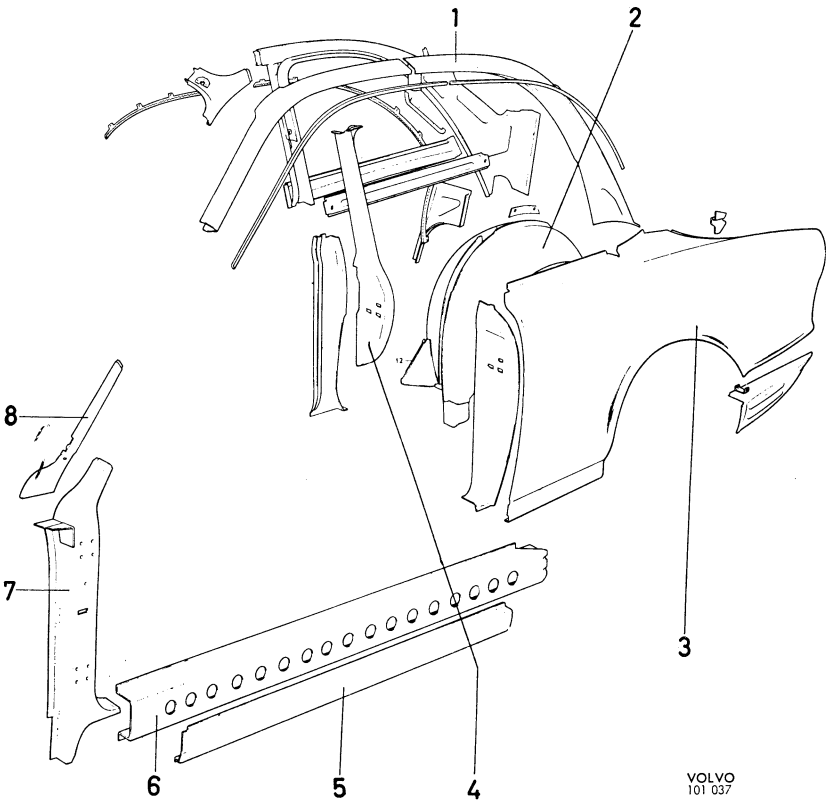

Fig. 6. Side section (2-door)
The body frame is largely similar to that of the 4-door model. However, the side part is altered so that there is no longer an intermediate pillar and the rear mudguard (3, Fig. 6) is extended. The side section consists of front and rear door pillars (7 and 4), intermediate and outer cantrails (6 and 5), roof former (1), windscreen pillar (8), rear wheel arch (2) and rear mudguard (3).